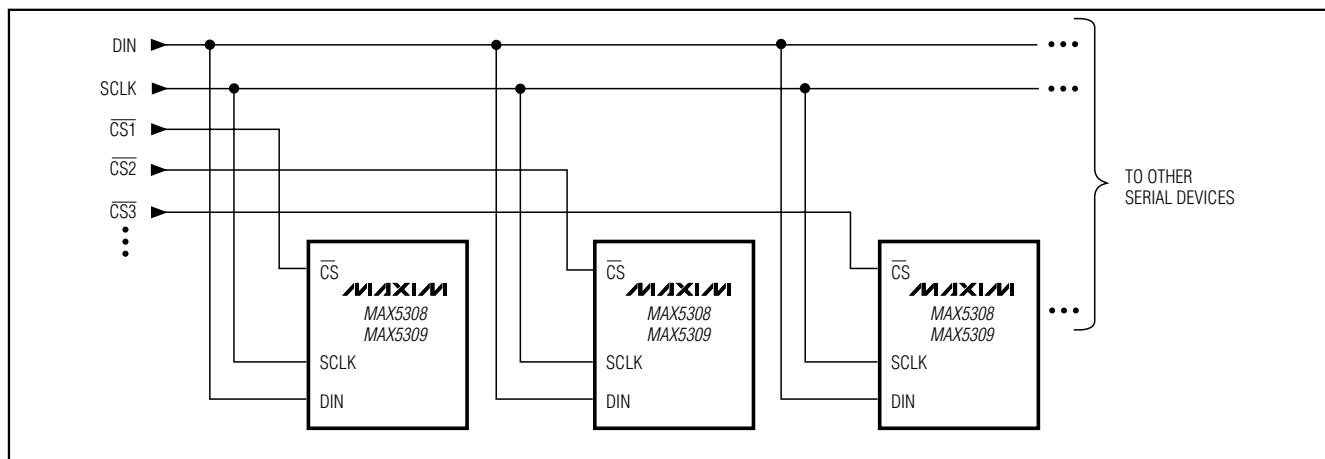

Figure 6. Multiple MAX5308s or MAX5309s Sharing a Common DIN Line
Figure 6 shows an alternate method of connecting several MAX5308s or MAX5309s. In this configuration, the data bus is common to all devices; data is not shifted through a daisy chain. More I/O lines are required in this configuration because a dedicated chip-select input (CS) is required for each IC.